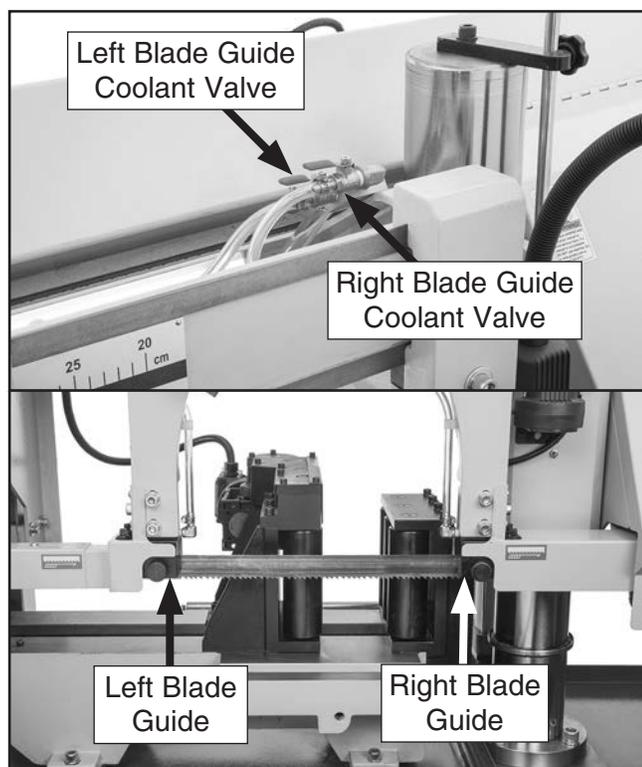

Figure 22. Location of coolant valves and blade guides.
14. Push and hold raise headstock button  (L) and raise headstock several inches.
15. Open coolant valves (see **Figure 22**). Coolant should flow through blade guides (see **Figure 22**) and onto blade when main motor starts in **Step 16**.
19. Close coolant valves (see **Figure 22**).
20. Reset Emergency Stop button (C).
21. Turn operation mode switch (G) to auto  mode, and turn feed roller switch (H) to forward .
22. Push reset button (M) on the digital counter, then use tabs (N) to set digital counter to 3.